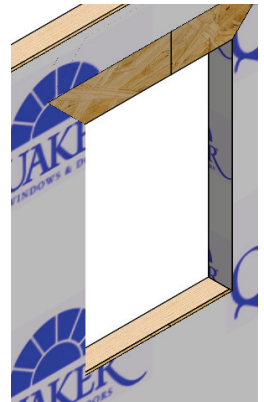

Fig. 3
- Fold back the WRB sides and sill toward the interior and staple into place. (Fig. 3)